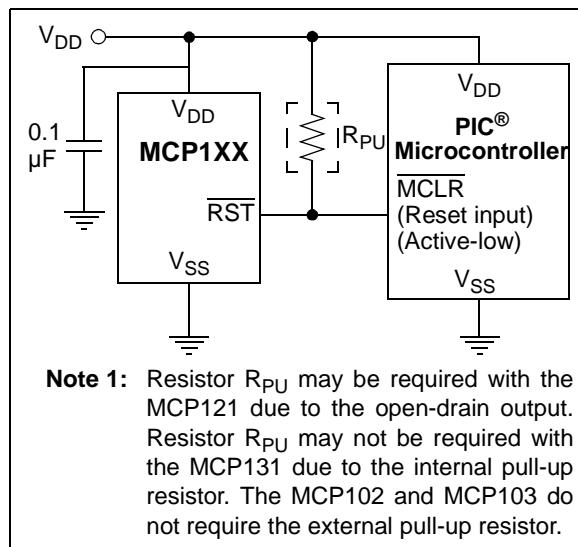

FIGURE 4-1: Typical Application Circuit.
**Note:** Unless otherwise indicated, all limits are specified for:  $V_{DD} = 1V$  to  $5.5V$ ,  $R_{PU} = 100\text{ k}\Omega$  (**MCP121** only; see **Figure 4-1**),  $T_A = -40^\circ\text{C}$  to  $+125^\circ\text{C}$ .
Note: Unless otherwise indicated, all limits are specified for:  $V_{DD} = 1V$  to  $5.5V$ ,  $R_{PU} = 100\text{ k}\Omega$  (**MCP121** only; see **Figure 4-1**),  $T_A = -40^\circ\text{C}$  to  $+125^\circ\text{C}$ .
**Note:** Unless otherwise indicated, all limits are specified for:  $V_{DD} = 1V$  to  $5.5V$ ,  $R_{PU} = 100\text{ k}\Omega$  (**MCP121**; see **Figure 4-1**),  $T_A = -40^\circ\text{C}$  to  $+125^\circ\text{C}$ .
Note: Unless otherwise indicated, all limits are specified for:  $V_{DD} = 1V$  to  $5.5V$ ,  $R_{PU} = 100 \text{ k}\Omega$  (**MCP121** only; see **Figure 4-1**),  $T_A = -40^\circ\text{C}$  to  $+125^\circ\text{C}$ .
For many of today's microcontroller applications, care must be taken to prevent low-power conditions that can cause many different system problems. The most common causes are brown-out conditions, where the system supply drops below the operating level momentarily. The second most common cause is when a slowly decaying power supply causes the microcontroller to begin executing instructions without sufficient voltage to sustain volatile memory (RAM), thus producing indeterminate results. Figure 4-1 shows a typical application circuit.
A 0.1  $\mu F$  bypass capacitor, mounted as close as possible to the  $V_{DD}$  pin, provides additional transient immunity (refer to Figure 4-1).